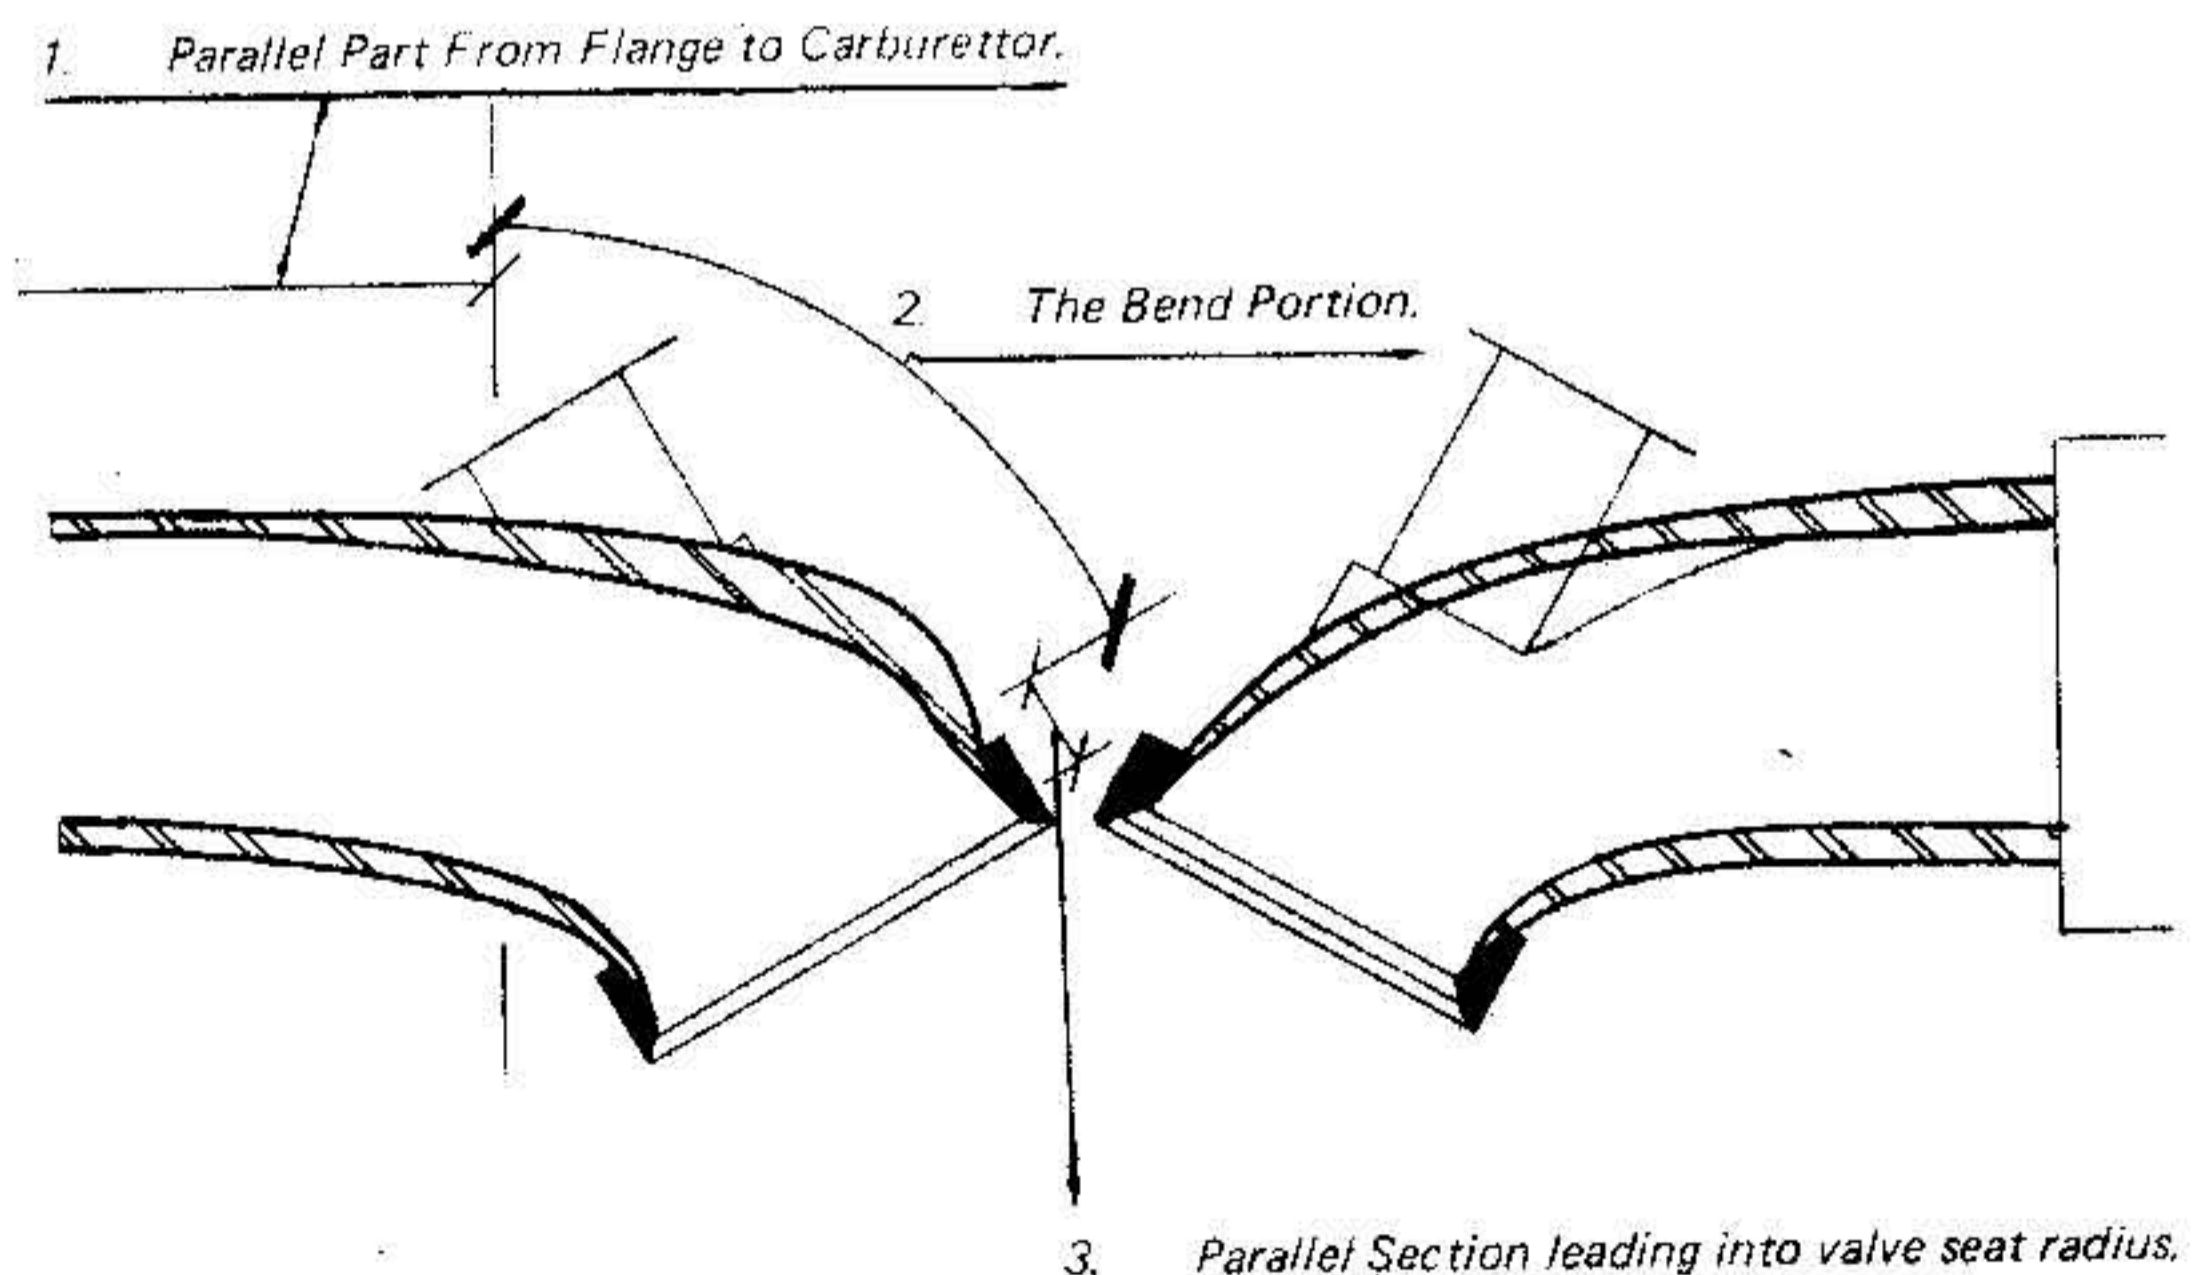

Fig. 1. The shaded areas illustrate where material should be removed
(1) Parallel part from the carburettor to the valve guide. This should be enlarged to match the carburettor size. Take great care when enlarging the port to match the 32mm carburettor not to break through the casting.
(2) The bend from the guide area down to the valve throat. As already mentioned, it is most advantageous to over emphasise the downward path of the gases by exaggerating their change of direction by removing material until a pocket is formed (see Fig. 1) behind the guide. This gives an exaggerated curve to the port and will promote the extra downward flow required.
(3) After the bend there should be a short parallel section — $3/16$ inch long running into a radiused valve seat.
The radiused area of the valve seat is essential to allow the incoming gases to flow efficiently at small valve openings. Improving gas flow at small valve openings is very important and the radius, as shown in Fig. 1, provides a better path for gases under these circumstances.